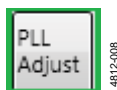

Figure 8. PLL Adjust Button
- By clicking the **PLL Adjust** button (see Figure 8), the user activates a series of predefined register writes to initiate an autocalibration to lock the PLL/VCO.